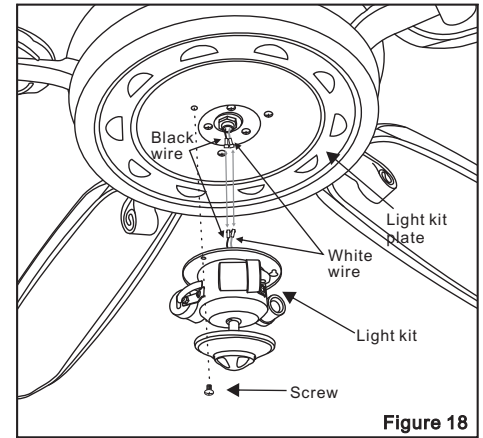

Figure 18
3. Remove 1 of 3 screws from the light kit plate and loosened the other 2 screws (Do not remove). Connect white wire from motor to white wire from light kit. Connect black wire from motor to black wire from light kit. (Figure 18)
4. Place key holes on the light kit over the 2 screws previously loosened from the light kit plate, turn light kit until it locks in place at the narrow section of the key holes. Secure by tightening 2 screws previously loosened and the one previously removed. (Figure 18)